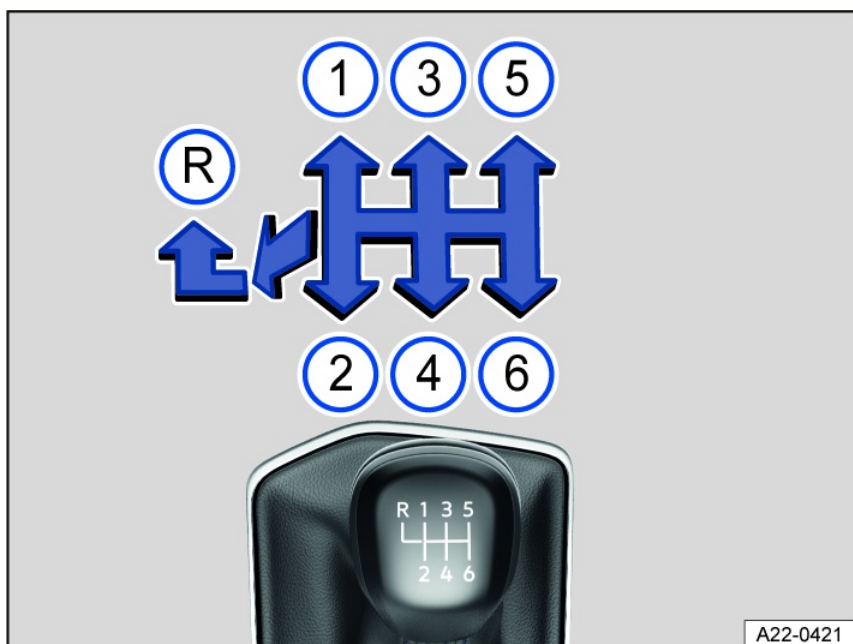

Fig. 97 Gear shift pattern for 6-speed manual transmission. Your vehicle may be equipped with a 5-speed manual transmission.
2. Move the gearshift lever into the preferred position *fig. 97* ①.
3. Push the gearshift lever all the way to the left and then forward into the reverse gear position *fig. 97* □.